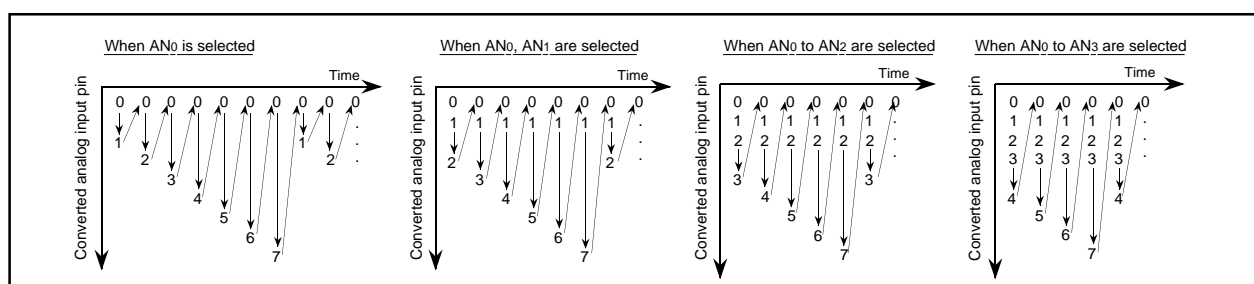
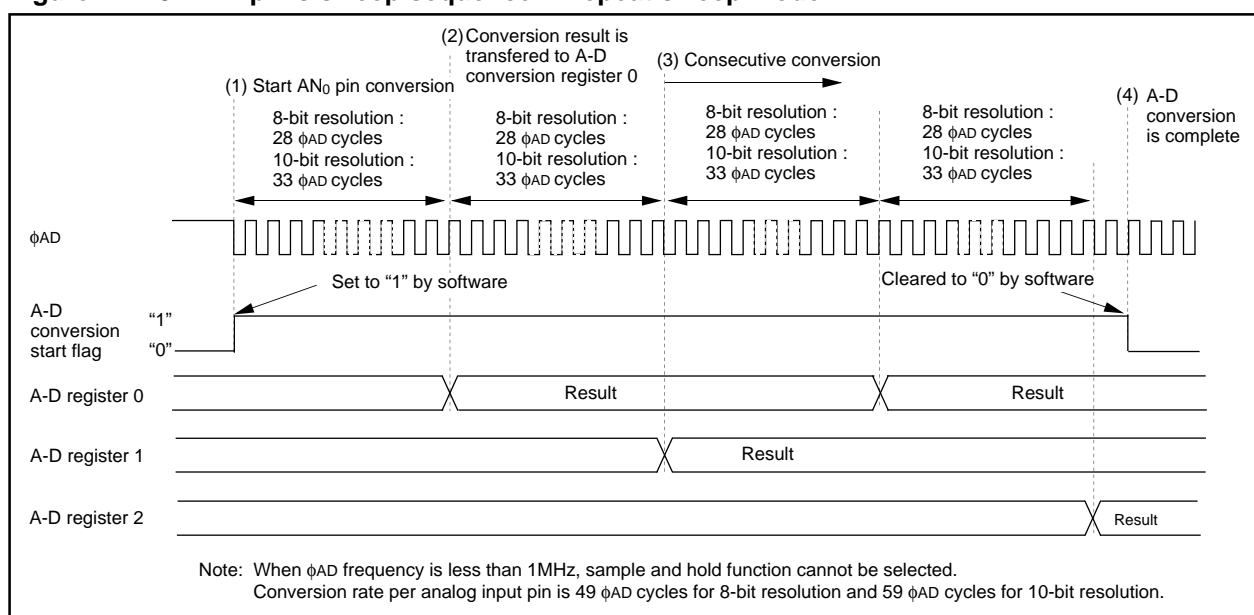
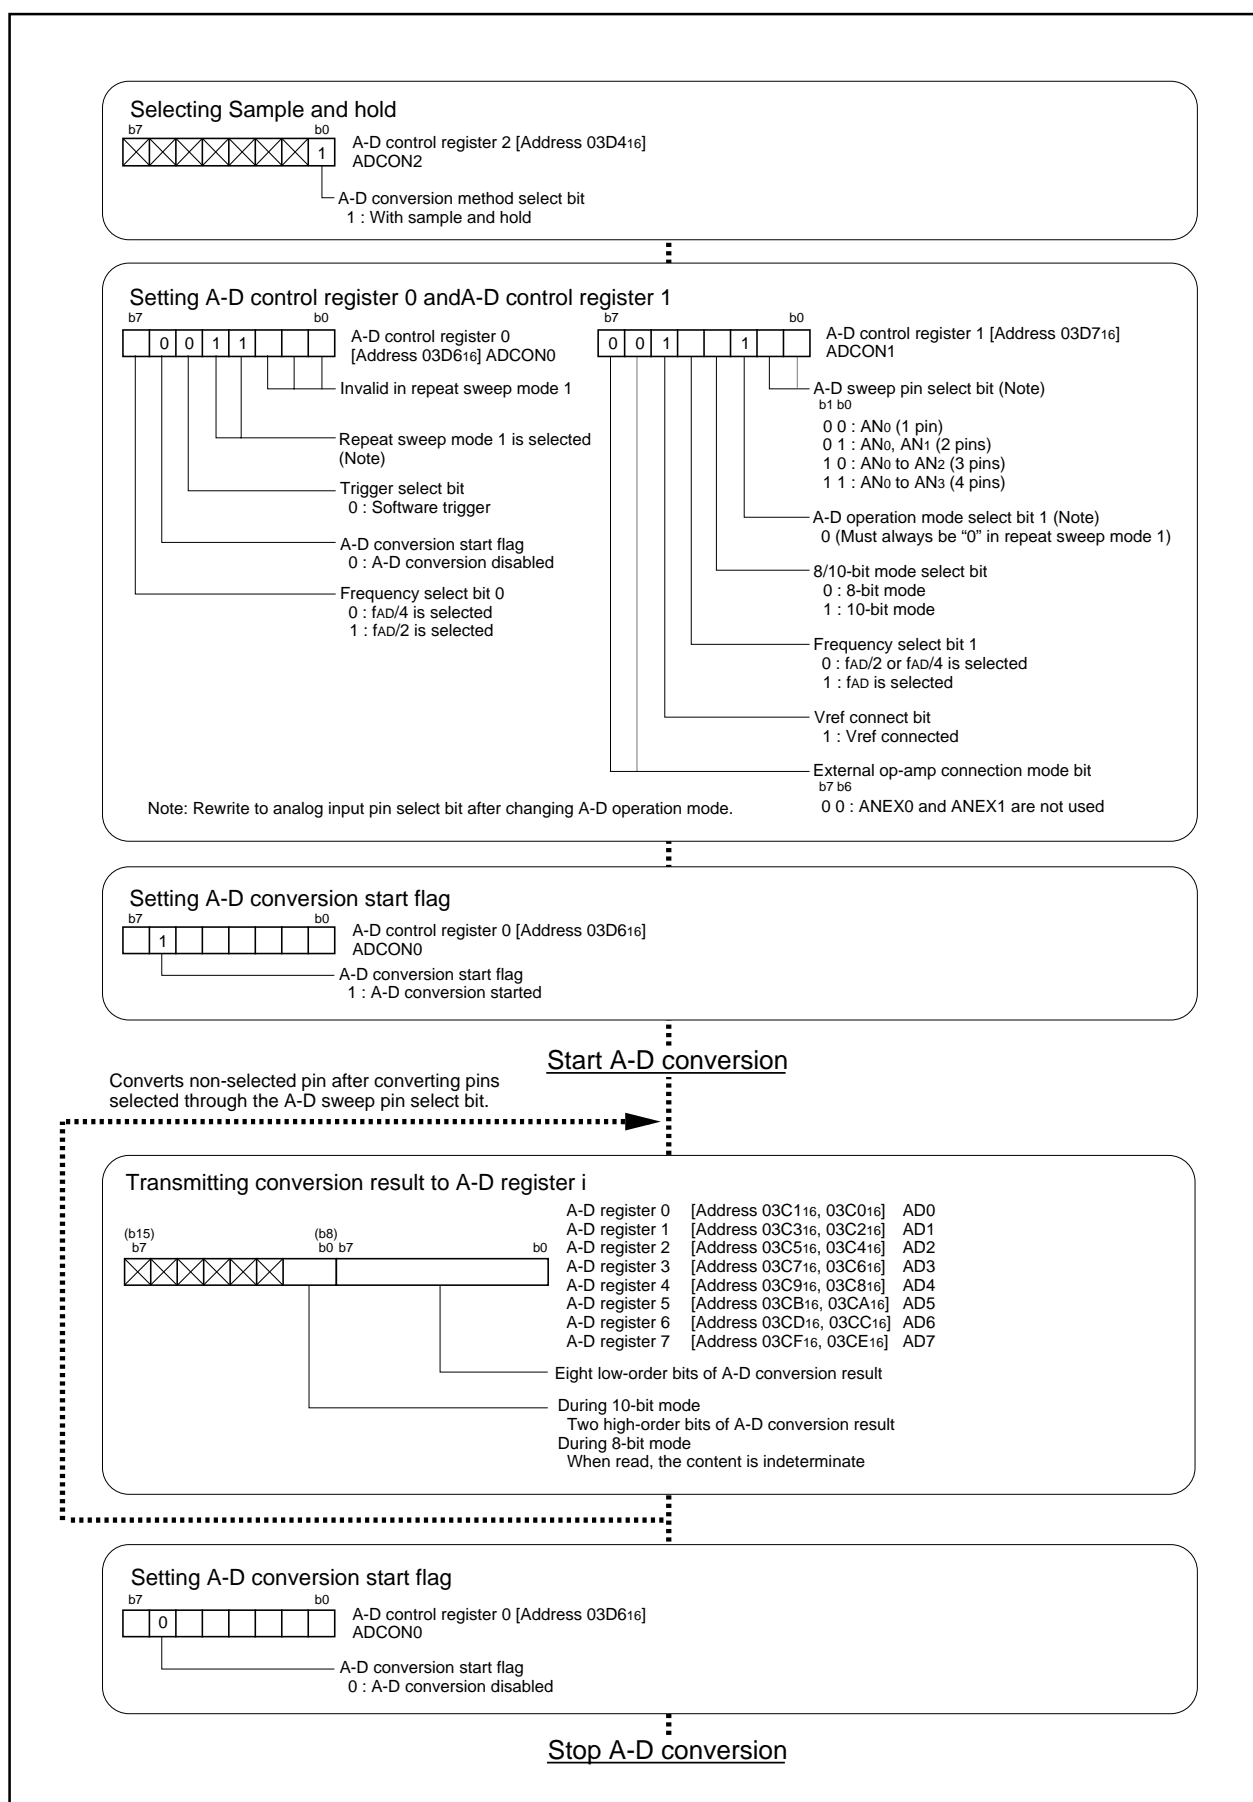

Figure 2.7.19. ANi pin's sweep sequence in repeat sweep mode
Figure 2.7.20. Operation timing of repeat sweep 1 mode
Figure 2.7.21. Set-up procedure of repeat sweep 1 mode
In repeat sweep 1 mode, choose functions from those listed in Table 2.7.9. Operations of the circled items are described below. Figure 2.7.19 shows ANi pin's sweep sequence, Figure 2.7.20 shows timing chart, and Figure 2.7.21 shows the set-up procedure.
- (1) Setting the A-D conversion start flag to "1" causes the A-D converter to start the conversion on voltage input to the AN0 pin.
- (2) After the A-D conversion on voltage input to the AN0 pin is completed, the content of the successive comparison register (conversion result) is transmitted to A-D register 0.
- (3) Every time the A-D converter carries out A-D conversion on a selected analog input pin, the A-D converter carries out A-D conversion on only one unselected pin, and then the A-D converter carries out A-D conversion from the AN0 pin again. (See Figure 2.7.19.) The conversion result is transmitted to A-D register i every time conversion on a pin is completed. The A-D conversion interrupt request bit does not go to "1".
- (4) The A-D converter continues operating until software goes the A-D conversion start flag to "0".